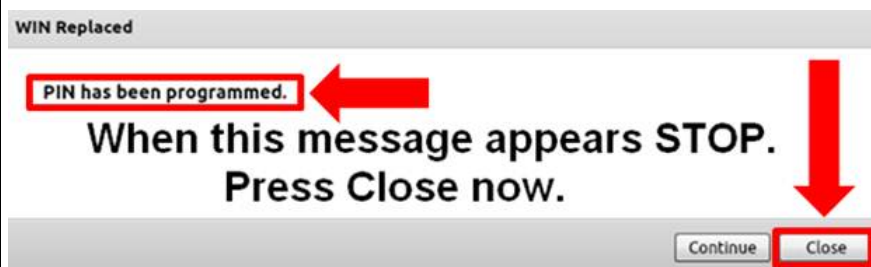

Figure 5
**DO NOT SELECT CONTINUE! You must Close the procedure at this point. (Figure 5)**